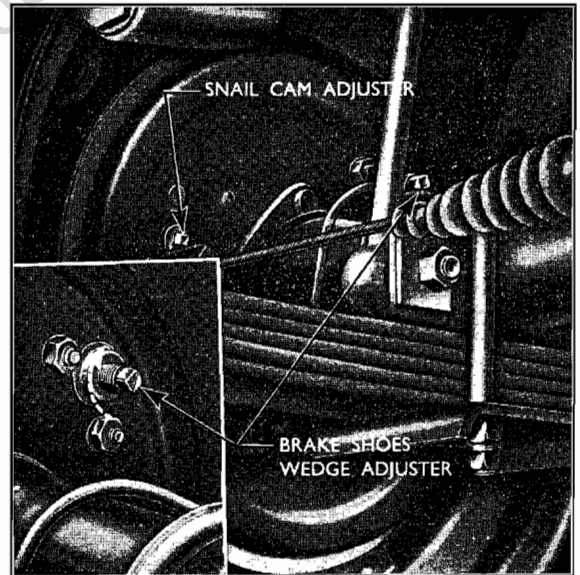

Fig. 3
the axle housing, see Fig. 3) clockwise until both shoes are held firmly against the drum.
2. Tighten the square-headed threaded adjuster on each brake plate (located above and forward of the rear axle housing) by turning clockwise to lock the rear drums. Repeat for the other rear brake, see Fig. 3.